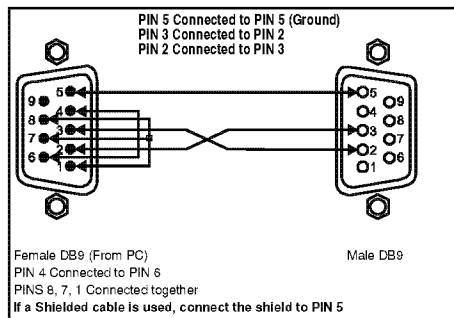

Figure 3: Connecting a PC without using a Null-modem Adapter
- Connect the RS-232 DB9 port on your PC to the RS-232 DB9 rear panel port on the **VP-23DS**, as Figure 3 illustrates